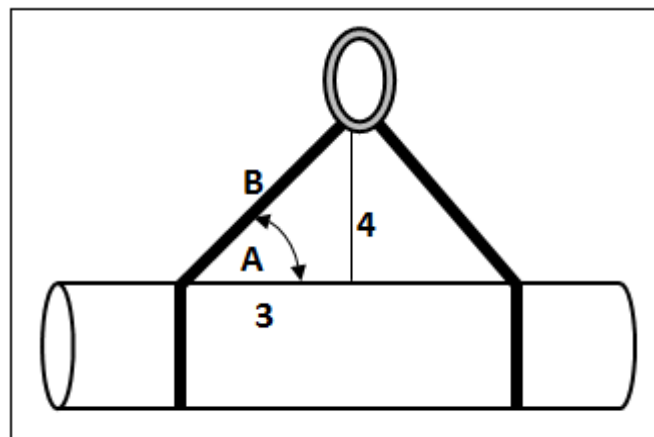

FIGURE 4
- 7.1 Study FIGURE 4 showing a solid round bar that has to be lifted to a platform by a crane.